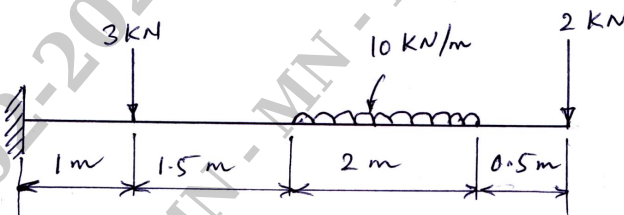

Fig.Q6(a)
- 6 a. Draw the shear force and bending moment diagrams for the cantilever beam shown in Fig.Q6(a).